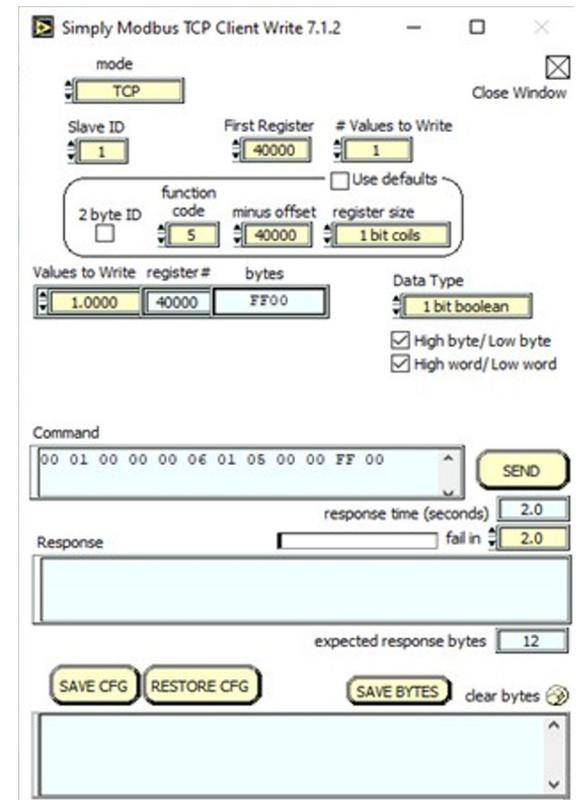

Figure 47.2.
- A new window will appear. See Figure 47.2. In this new window, make sure Mode is set to TCP